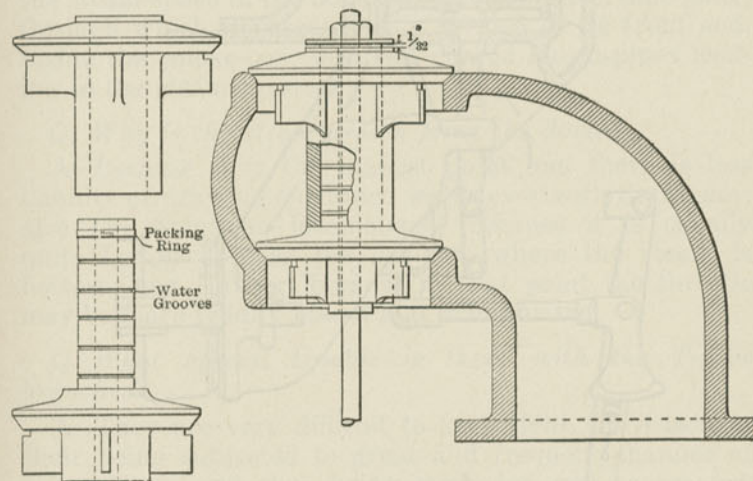

Fig. 111. The Chambers Throttle.
A. As shown in Fig. 111, the two seats are separate, fitting together as shown and acting as a solid valve, while allowing for expansion and adjustment. The projection on lower seat extends 1-32 inch through the upper seat, and the movement is limited to this amount by a washer on the stem, as shown.